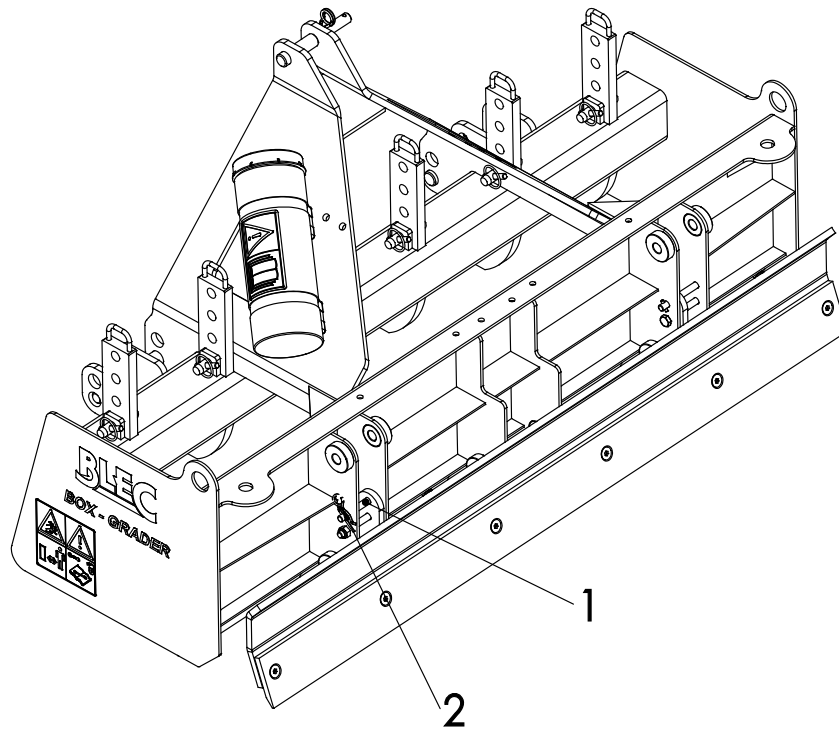

Figure 13
The Box Scraper knife is suspended in a hinged manner (Figure 13). If required, it is possible to block the knife. You can do this by putting the pins (1) in the hole and to secure these using the locking clip (2) included in the delivery.